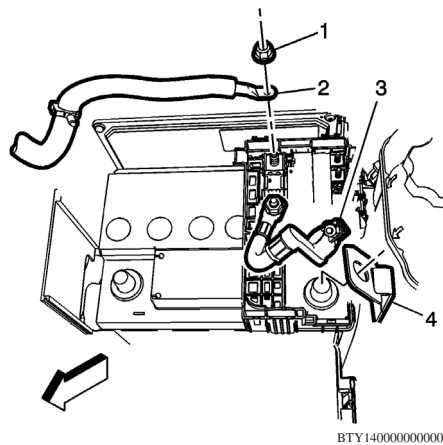

Fig. 3 Battery positive cable removal
7. Remove battery fuse block cable clamp fastener (3) and battery hold down strap (4), **Fig. 3**.
4. Install battery positive cable (2) to battery fuse block and torque nut (1) to 88 inch lbs., **Fig. 3**.
5. Install battery hold-down strap (4) to battery positive post, **Fig. 3**.
6. Install battery positive clamp to post and torque nut (3) to 44 inch lbs., **Fig. 3**.